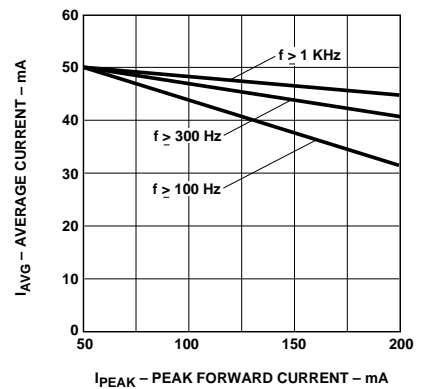

Figure 5. Maximum Average Current vs. Peak Forward Current.
- Refer to Figure 5 to establish pulsed operating conditions.